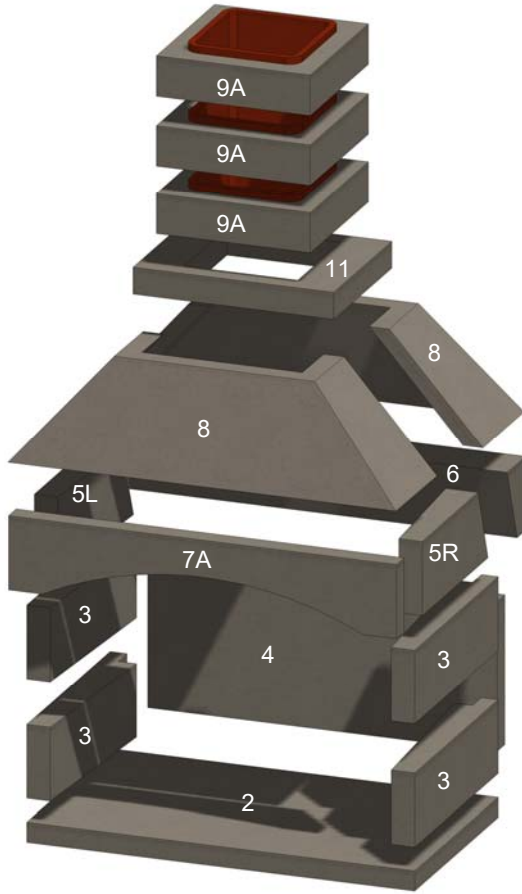
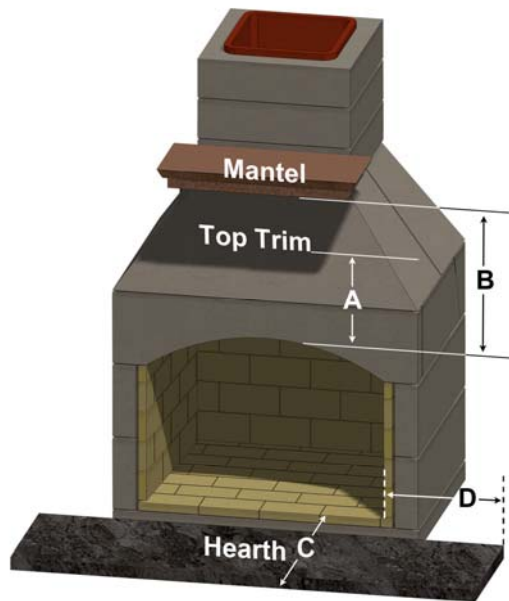

Figure 2. Fireplace Components
Figure 3. Clearances (Use with Table 2)
The fireplace is delivered as a kit with all components necessary to complete the installation. Component arrangements are shown in Figure 2. Components are listed in Table 1. Specifications and installation dimensions are shown in Table 2.
- A. Fireplace items shown in Figure 2 and listed in Table 1.
Table 2: Clearances (See Figure 3)
Note 5: Clay flue liners installed in flue section (item 9A, Figure 2) meet the specifications of ASTM Section C315-02.
Select a location in the home plans or outdoor living area where all the minimum distances, as shown in Table 2 and Figure 3 can be met. Proceed as follows. Numbers in () are item numbers from Table 1 and Figure 2. Ensure the base on which the fireplace is to be installed is a solid and level foundation and is composed of non-combustible material, such as concrete.
If the unit is to be installed indoors, do not use the Riser Legs (items 1 and 1A, shown in Figure 2 and Table 1). Instead, install the fireplace on a solid base, such as a cement pad or concrete blocks. Two courses of 8” tall block will be slightly shorter than the riser legs of the kit.
If this is your first Stone Age installation, it is suggested that you first assemble the components without mortar to familiarize yourself with how the components fit together. See Figure 2.
Ensure the Table 2 and Figure 3 clearances and distances are maintained. Ensure that the hearth and flooring under and in front of the hearth are made of fully non-combustible materials, not just a non-combustible floor covering.
If installing a mantel and side trim, particularly if it is wood or other combustible materials, ensure the minimum distances shown in Table 2 and Figure 3 are met.